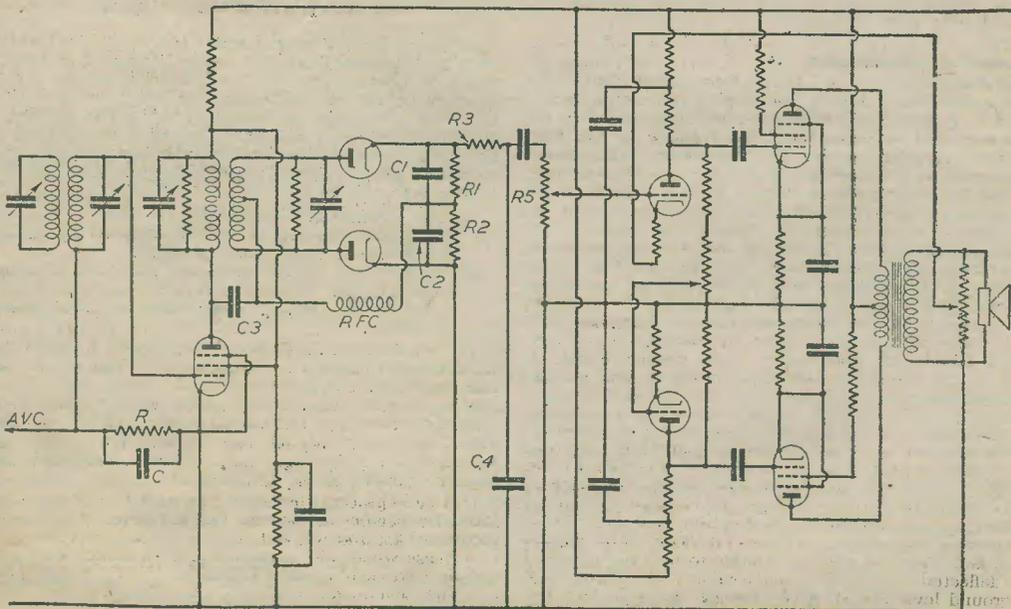

Fig. 1.—The complete circuit of a typical limiter, converter, A.F. and output stages.
Fig. 1 shows the complete circuit of a typical limiter, converter, audio frequency amplifier and output stages, which not only embodies all the necessary details to illustrate the points made in this article, but includes that part of a frequency-modulated receiver which differs from an amplitude-modulated receiver. Reference to Fig. 1 will show that the audio output from the frequency amplitude converter is taken through a pair of triodes arranged for phase splitting, the resistance R_3 and condenser C_4 being arranged as a filter to attenuate, to negligible proportions, any radio frequency that might otherwise appear at troublesome amplitude in the audio-frequency stages. The values for this filter are not particularly critical as long as the higher audio frequencies are not attenuated, unless, of course, the filter is intended to perform the additional office of de-emphasis. Suitable values for these components are 100,000 ohms and 50 to 100 pfd., or if it is desired to introduce de-emphasis the value of the condenser would be increased as necessary to conform with a degree of pre-emphasis used in the transmitter. It will be noted that a push-pull amplifier is shown using negative feed-back; the circuit used for the audio-frequency section has, of course, no direct connection with frequency modulation except that some high-
It is possible to introduce an interesting variation by substituting the phase-splitting arrangement shown at Fig. 1 for a pair of triodes in ordinary push-pull and rearrange the discriminator circuit so that a symmetrical output is obtained. It is merely necessary to remove the earth tap from the outer end of R_2 and place it at the junction between R_1 and R_2 ; this rearrangement results in a symmetrical output that can be used to feed the push-pull triodes. If de-emphasis is used with this rearranged system, it will be desirable to place a filter in each grid lead. This alternative arrangement appears at first sight to be preferable to the arrangement at Fig. 1, and surprise may be evinced that it has been selected for illustration in preference to the alternative. Given perfectly matched components, and a perfectly-designed receiver, there is much to be said for the alternative arrangement, but under less favourable conditions the arrangement illustrated is probably more satisfactory. One advantage is a gain in stability which in practice appears when one or other of the diode cathodes is connected direct to the earth line, instead of via the condenser potentiometer C_1, C_2 . A further advantage is readily apparent by reference to Fig. 1. The use of the centre-tap diode circuit may introduce undesirable lack of balance, if the increase of potential difference across one resistance is not sensibly equal to the decrease across the companion resistance under conditions of modulation; when the centre tap is not employed, the audio-frequency amplifier
(1) Disconnect the limiter bias resistance (R , at Fig. 1) at the earth end and insert a low reading milliammeter—if available, a 0-500 microammeter is usually most convenient; a large-scale type instrument is preferable. (Some frequency-modulated receivers are fitted with a jack or terminals and link, for this particular purpose.)
(2) Connect the signal generator between the grid of the frequency-changer valve and earth exactly as when lining up a normal superhet.
(3) Stop the oscillator section of the frequency changer from oscillating by any convenient means, e.g., earthing the grid.
(4) Set the signal generator to the unmodulated intermediate frequency and adjust I.F. transformers to